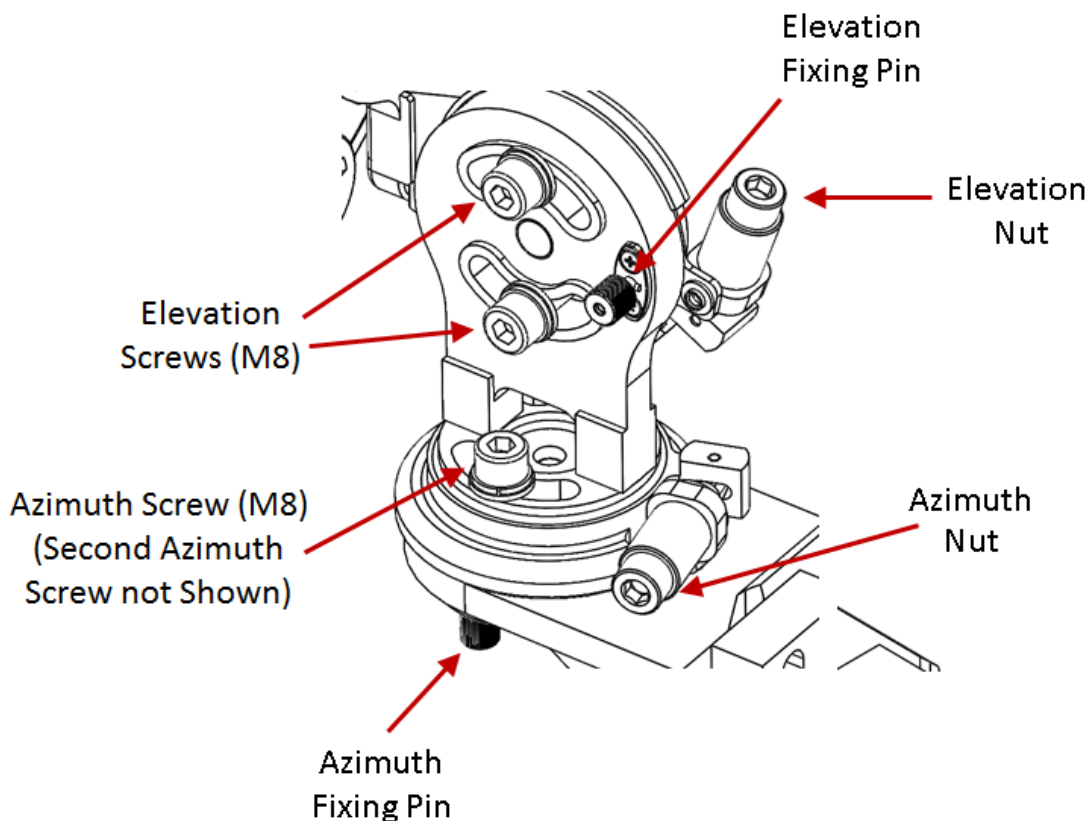

Figure 28: Installation and Alignment Device – Azimuth and Elevation Adjustment Tools
There are two M8 Elevation Screws and two M8 Azimuth screws, as shown in **Figure 28**. Before starting the alignment, make sure these screws are securely in place so they will not fall out during the procedure, but not too tight, so as to enable you to manually adjust the azimuth and elevation to the approximate position you want, before performing exact antenna alignment as described in the following sections.
You can easily adjust the azimuth and elevation of the antenna using a number of screws and nuts located on the installation and alignment device (**Figure 28**).
1. Loosen the Azimuth Fixing Pin (Figure 28) by pulling it gently out of its groove and rotating it counter-clockwise.
1. Turn the Azimuth Nut (Figure 28), either by hand or using a key wrench, for fine tuning of the azimuth. Each $\frac{1}{4}$ turn is equal to an adjustment of 0.25° .